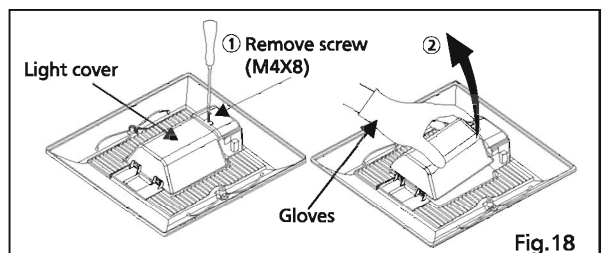

Fig. 18
2. Remove the screw as shown in step 1 of Fig. 18. Remove the light cover as shown in step 2 of Fig. 18.